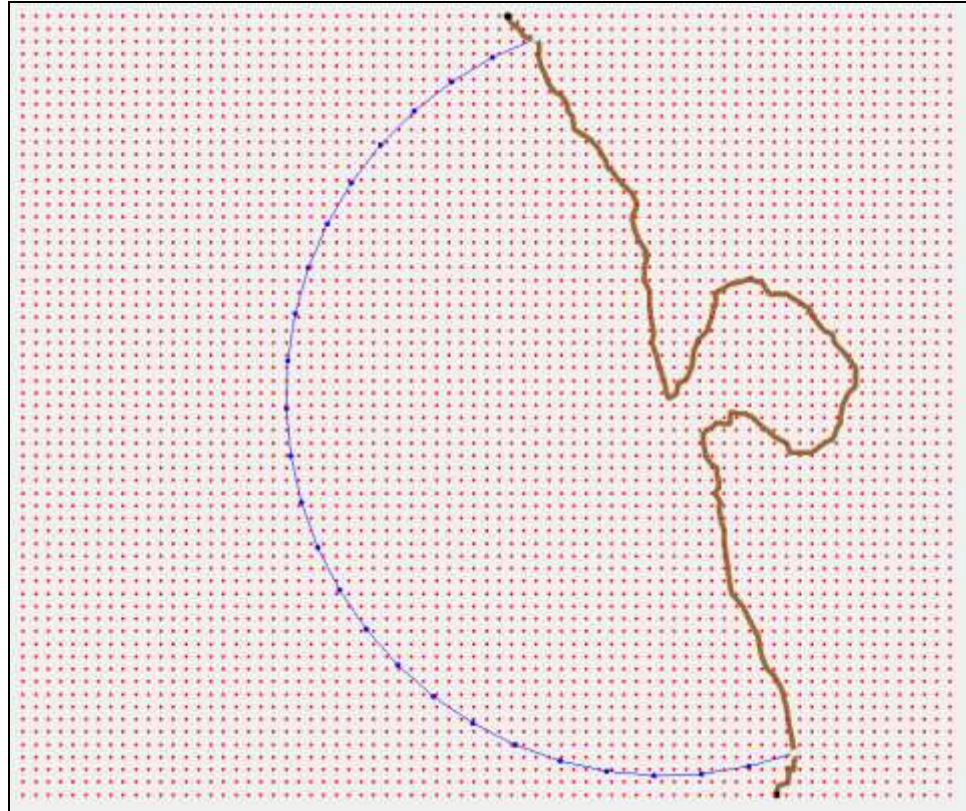

Figure 2 The ocean domain arc
3. Select *Semi-circular* and click **OK** to close the *Domain Options* dialog. This creates a semicircular *Ocean* arc as shown in Figure 2.